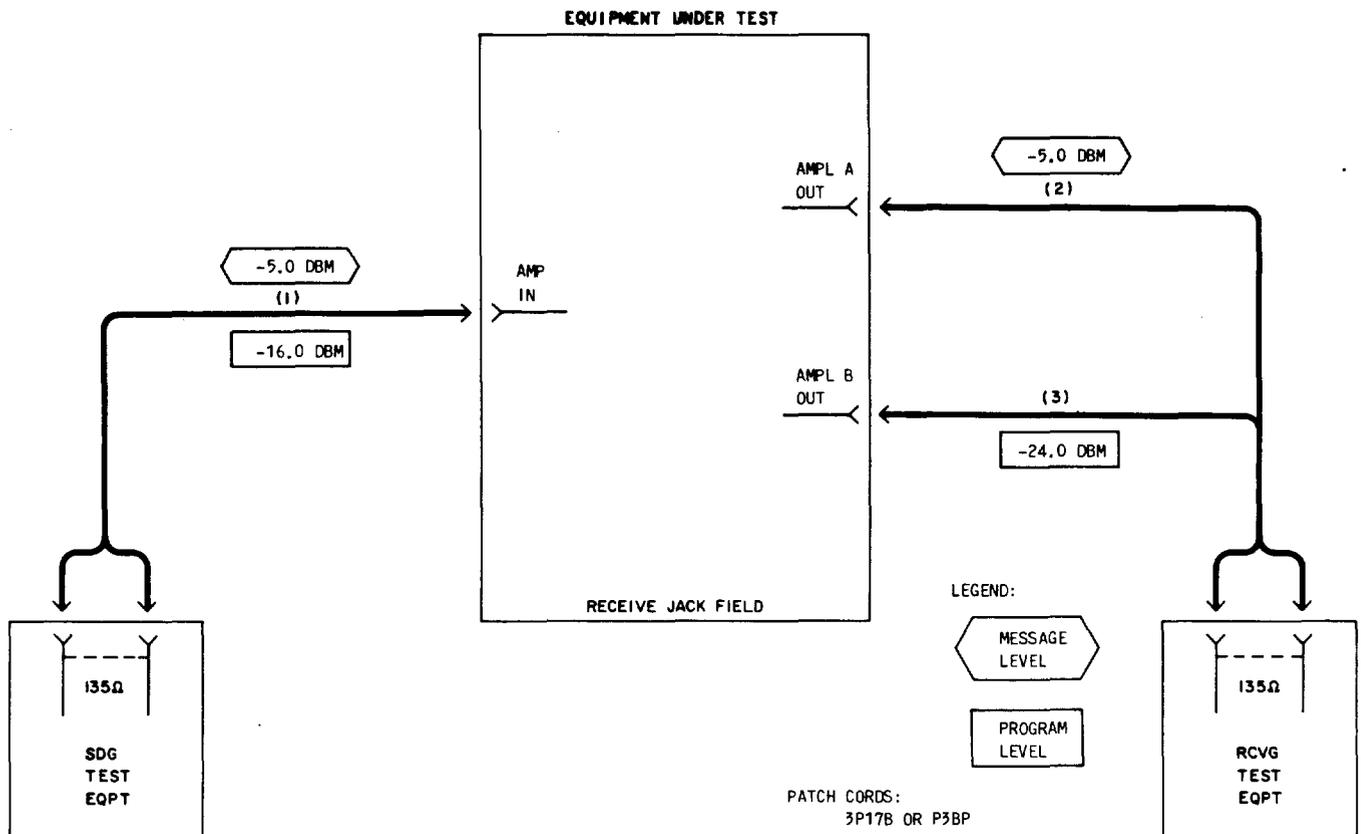

Fig. 7—Receive Combining Module Test Connections
2	Connect the STE to the AMP IN jack [patch (1), Fig. 7].
3	Connect the RTE to the AMPL A OUT jack [patch (2), Fig. 7].
5	Remove patch (2), Fig. 7.
7	Connect the RTE to the AMPL B OUT jack [patch (3) Fig. 7].
9	Remove patch (3), Fig. 7. B. Edge-of-Band Test
11	Connect the RTE to the AMPL A OUT jack [patch (2), Fig. 7].
18	Remove patches (1) and (2), Fig. 7. Note: The receive combining module is now ready for in-service use.